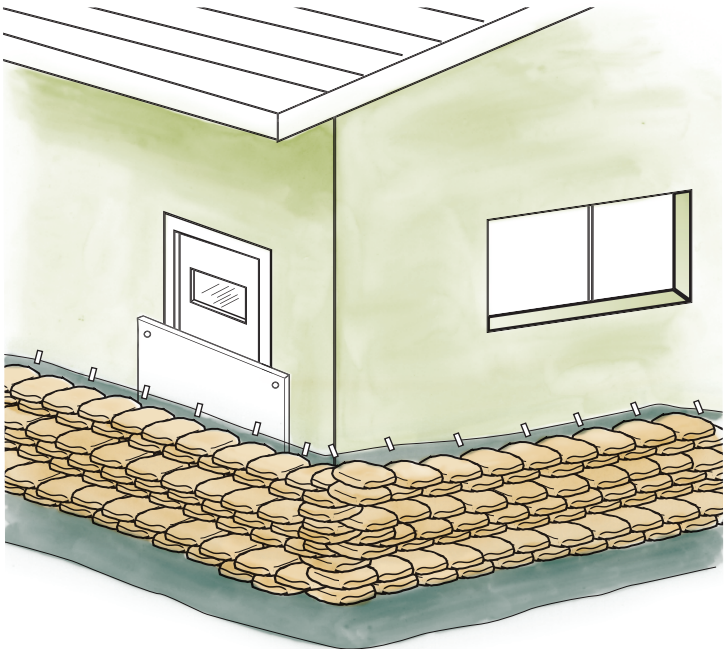

Figure 15: Structure Protection
- Place sandbags on the plastic sheeting in the form of a half pyramid against the structure (Figure 15).